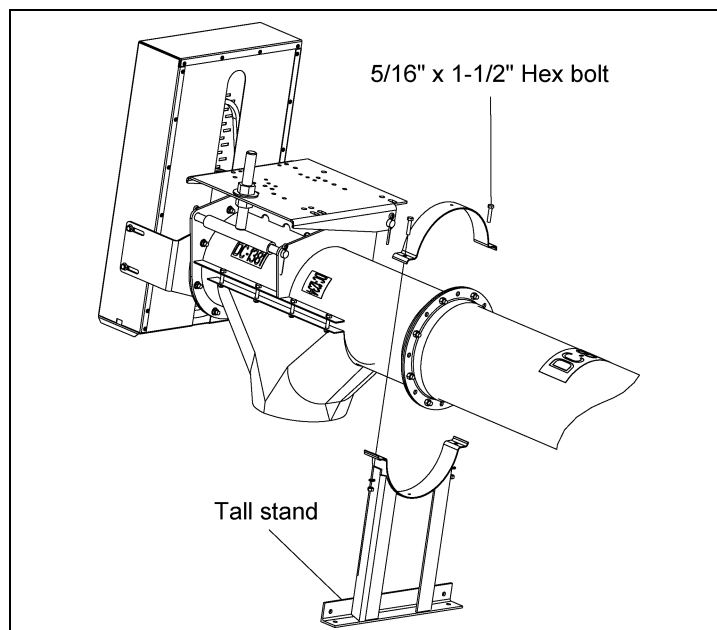

Figure 4S
- A. Attach the tallest stand on the motor mount side of the connecting flange. It is necessary to place the stand on the motor mount side of the flange to help support the weight of the motor. (See Figure 4S.)